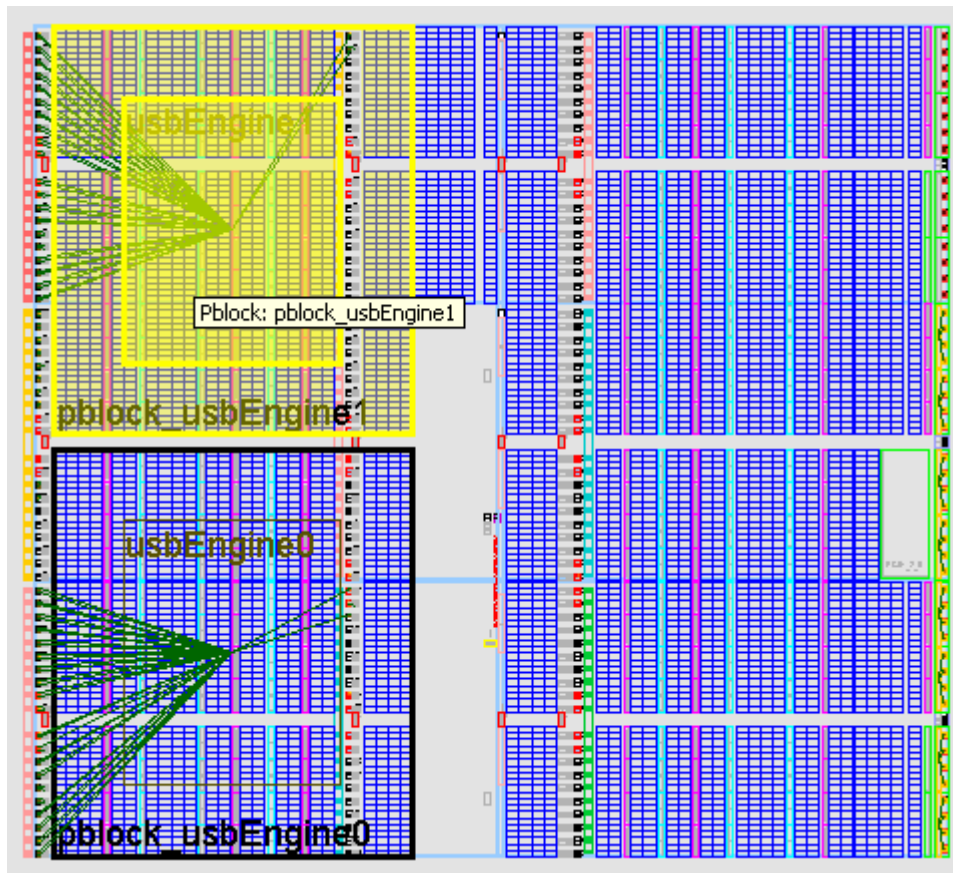

Figure 60: Floorplan both USB Timing Critical Blocks
- 15-1-12.** Do not overlap the Pblocks. The end result will look like Figure 60.